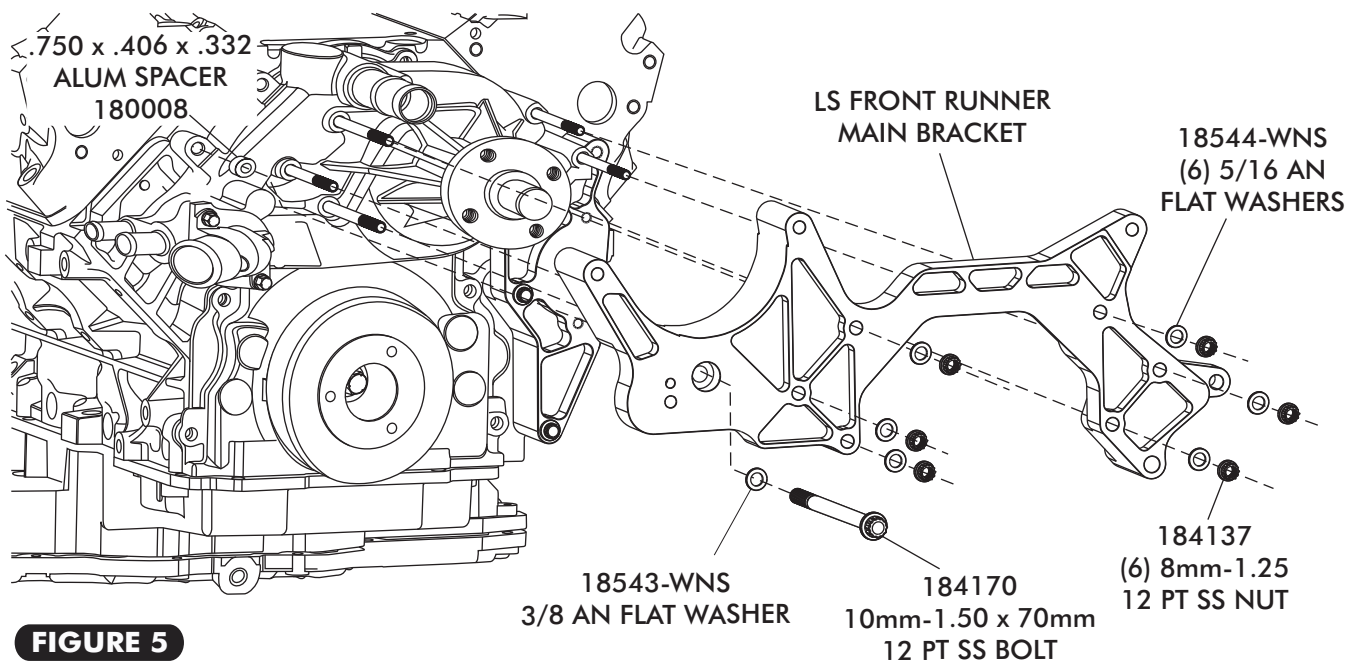

FIGURE 5
- ❑ INSTALL FRONT RUNNER MAIN BRACKET ASSEMBLY OVER WATER PUMP AND 8mm MOUNTING STUDS USING 5/16 AN FLAT WASHERS AND 8mm-1.25 12 PT SS NUT. SEE FIGURE 5 BELOW. **NOTE: DO NOT TORQUE FASTENERS AT THIS TIME.**
- ❑ INSTALL .750 x .406 x .332 ALUM SPACER BETWEEN MAIN BRACKET AND WATER PUMP, USING A 10mm-1.50 x 70mm 12 PT SS BOLT AND 3/8 AN FLAT WASHER AS SHOWN IN FIGURE 5.